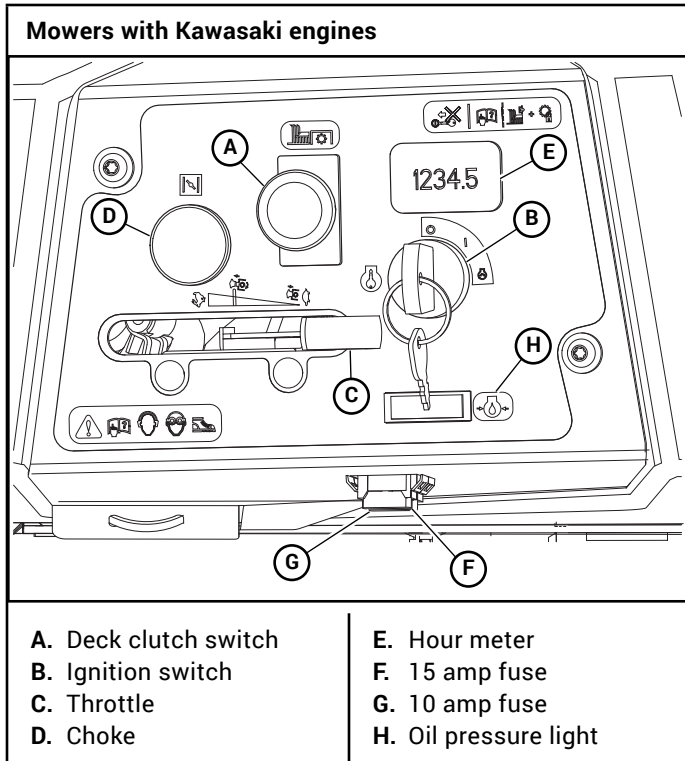

Figure 3-1
- A. **Deck clutch switch** (Figure 3-1 & Figure 3-2) – this switch engages the deck. Pull the switch up to engage and push the switch down to disengage the clutch.
- B. **Ignition switch** (Figure 3-1 & Figure 3-2) – a three position switch: “OFF”, “RUN”, and “START”. With the key inserted, rotate it clockwise to the “START” position; release the key when the engine starts, and the switch will automatically return to the “RUN” position.
- C. **Throttle control** (Figure 3-1 & Figure 3-2) – a cable is linked to the engine throttle for controlling engine speed. Move the lever forward to increase engine rpm, move the lever rearward to decrease engine rpm.
- D. **Choke control** (Figure 3-1) – a cable is linked to manually operate the engine choke. When the lever is in the down position, the choke is in the “OFF” (run) position. When the knob is pulled up, the choke is in the “ON” (start) position. **Do not** operate the machine in the “ON” (start) position.
- E. **Electronic hour meter** (Figure 3-1 & Figure 3-2) – registers 1/10 hour increments up to 9,999.9 total hours. It is connected to the ignition switch. It records the accumulative time while the ignition key is switched to the “RUN” position.
- F. **15 amp fuse** (Figure 3-1 & Figure 3-2) – Deck clutch – 15 amp, blade-type.
- G. **10 amp fuse** (Figure 3-1 & Figure 3-2) – Ignition/Safety system – 10 amp, blade-type.
- H. **Oil pressure light** (Figure 3-1 & Figure 3-2) – this light comes on when the ignition switch is placed in the RUN position and stays lit until the engine is running and a safe oil pressure is developed. If the light comes on during operation, shut engine off immediately and locate and correct the problem.